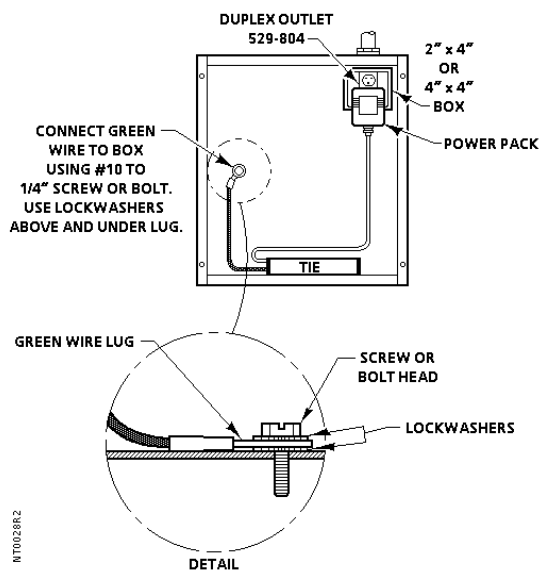

Figure 5. Earth Ground Connections in Enclosures.
7. Connect the earth ground wire to the HSTIE and the nearest earth ground (i.e., center cover screw of a grounded outlet, field panel backplane mounting bolts or power supply mounting bolts, or a screw connection to the back of a metallic grounded outlet box). See Figure 5 for earth ground locations in field panels.